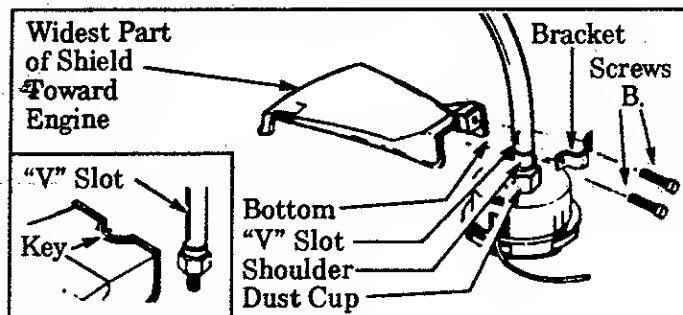

Figure 6
Failure to install the shield in the position shown in Figure 6 can result in serious injury to the operator. The length of the shield must be aligned with the length of the drive shaft housing. Direct the widest part of the shield toward the engine.
- Match the Key (raised area) on the Shield with the "V" slot on the Drive Shaft Housing. Figure 6.
- Rest the bottom of the Shield on top of the shoulder (not on the Dust Cup) of the Drive Shaft Housing. Figure 6.
- Install the Shield Bracket and Screws "B." as Shown in Figure 6.